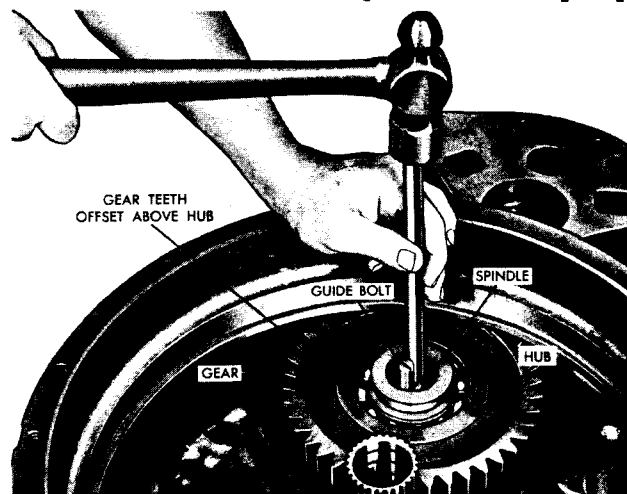

Fig. VI-21. Installing idler gear spindle
(8) Install a 7/16-14 headless guide bolt in the converter housing (fig. VI-21). Press the idler gear spindle into the bearing, at the side of the gear which has the gear teeth offset above the hub of the gear. Install the assembly onto the guide bolt, align the spindle with its bore, and drive it until it seats.
(9) Remove the guide bolt and install the self-locking bolt which retains the spindle.